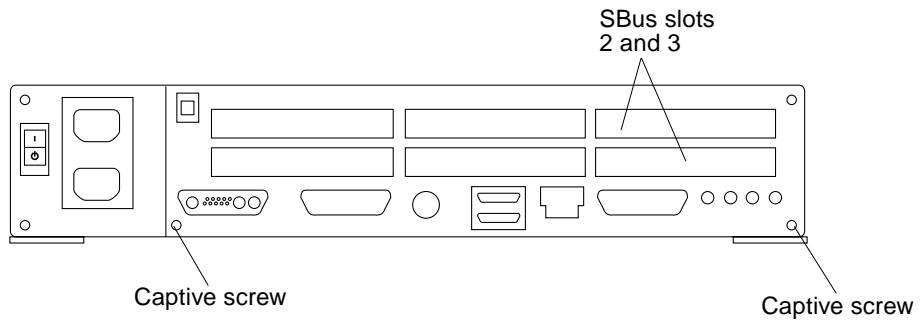

FIGURE 8-37 Back Panel SBus Slots and Captive Screws
5. **Replace any SBus cards (see FIGURE 8-37).**
- 6. Loosen the two captive screws that secure the system board back panel to the chassis (FIGURE 8-37).**
5. **Slide the system board completely into the chassis. Tighten the two captive screws that secure the system board back panel to the chassis** (FIGURE 8-37).